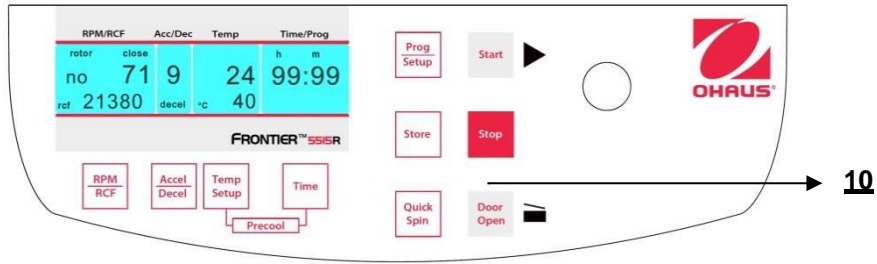

Figure. 27
By the "**Stop**" key (10) (See figure 27) you can interrupt the run at any time. After pressing the key the centrifuge decelerates with the respective pre-selected intensity down to stand still.